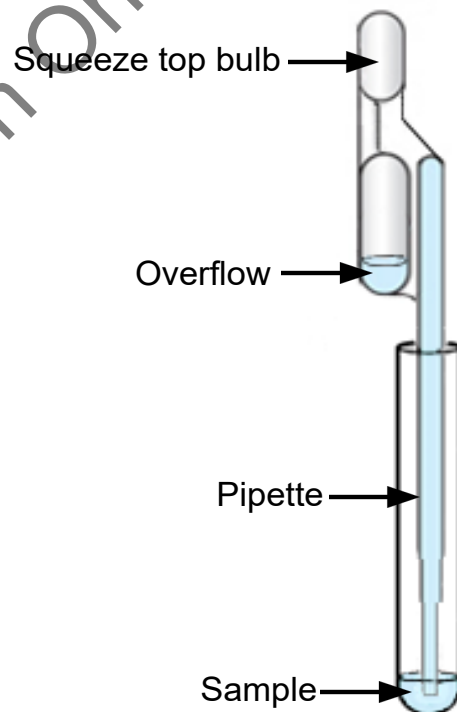
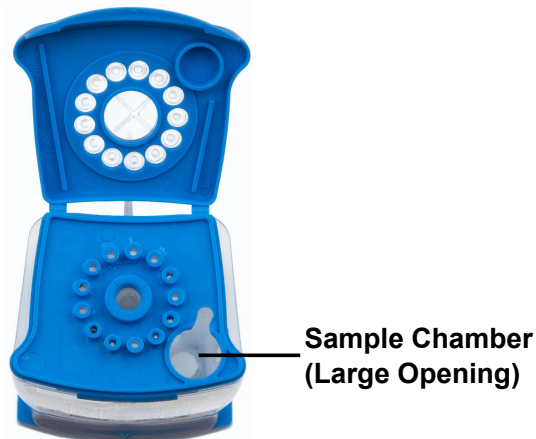

Figure 20. Transfer Pipette
Figure 21. Cartridge (Top View)
1. Squeeze the top bulb of the transfer pipette **completely** and place the pipette tip in the specimen transport tube containing the patient specimen (see Figure 20).
- To transfer the patient specimen to the cartridge, squeeze the top bulb of the transfer pipette completely again to empty the contents of the pipette into the large opening (Sample Chamber) in the cartridge shown in Figure 21. It is okay to have excess specimen left in the overflow reservoir of the pipette (Figure 20).